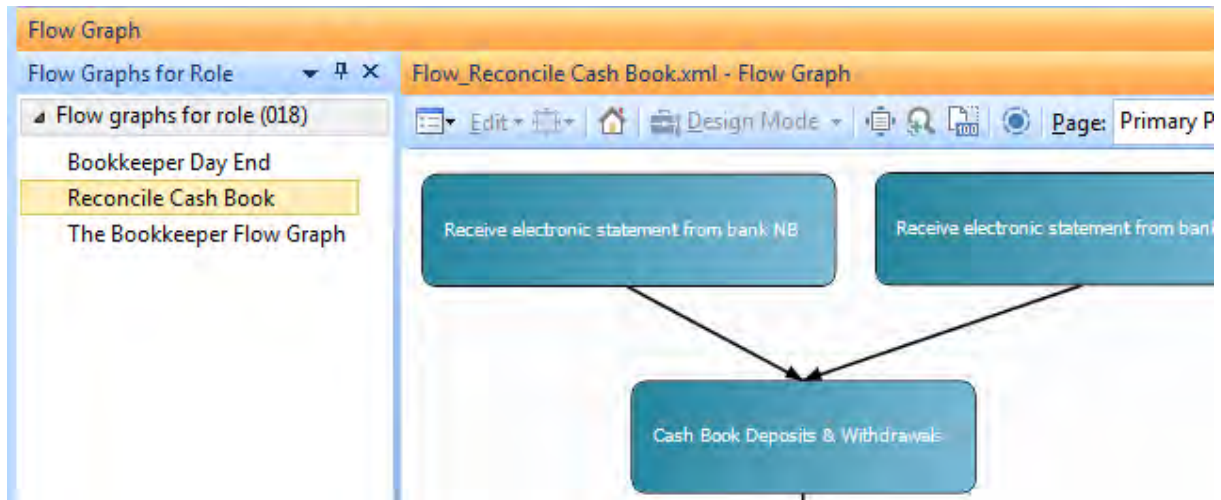

Figure 19-71: *Flow Graphs for Roles* pane
Figure 19-71 shows the *Flow Graph* section with the *Flow Graphs for Role* pane on the left. This contains a list of three flow graphs that have been created for this role. The *Reconcile Cash Book* flow graph name has been selected from these, and its flow graph is displayed in the pane on the right. If no flow graphs had been created for this role, the *Flow graphs for role (018)* header would be the only entry within this pane.